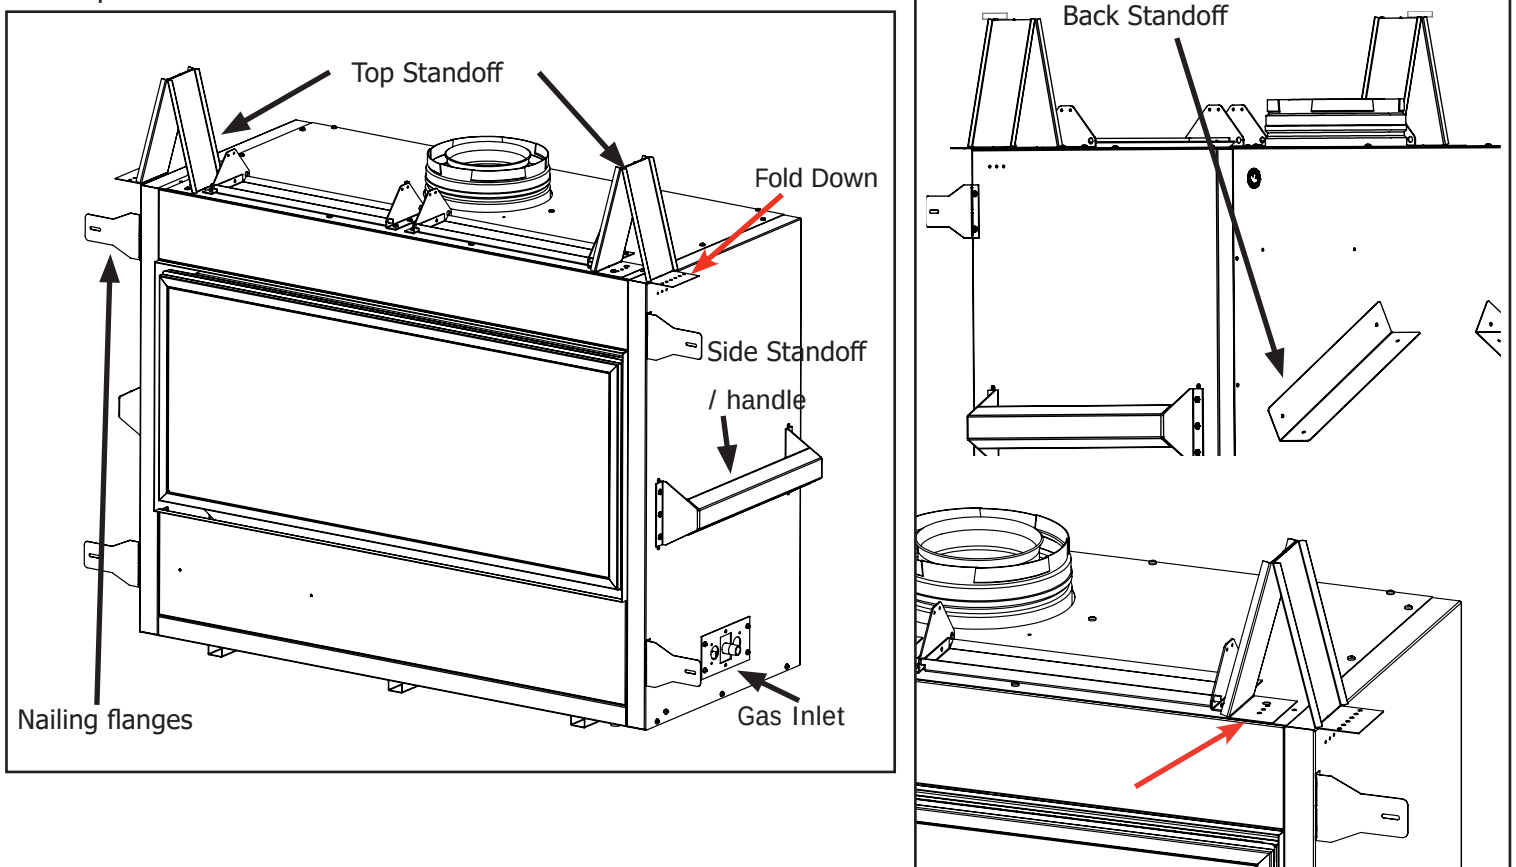

Figure 13: Fireplace Install Prep
Take a minute to familiarize yourself with Figure 13 below.
- The top framing standoffs will need to be folded up and secured with a T-20 screws on top and side of the cabinets, This can be seen in Figure 13.